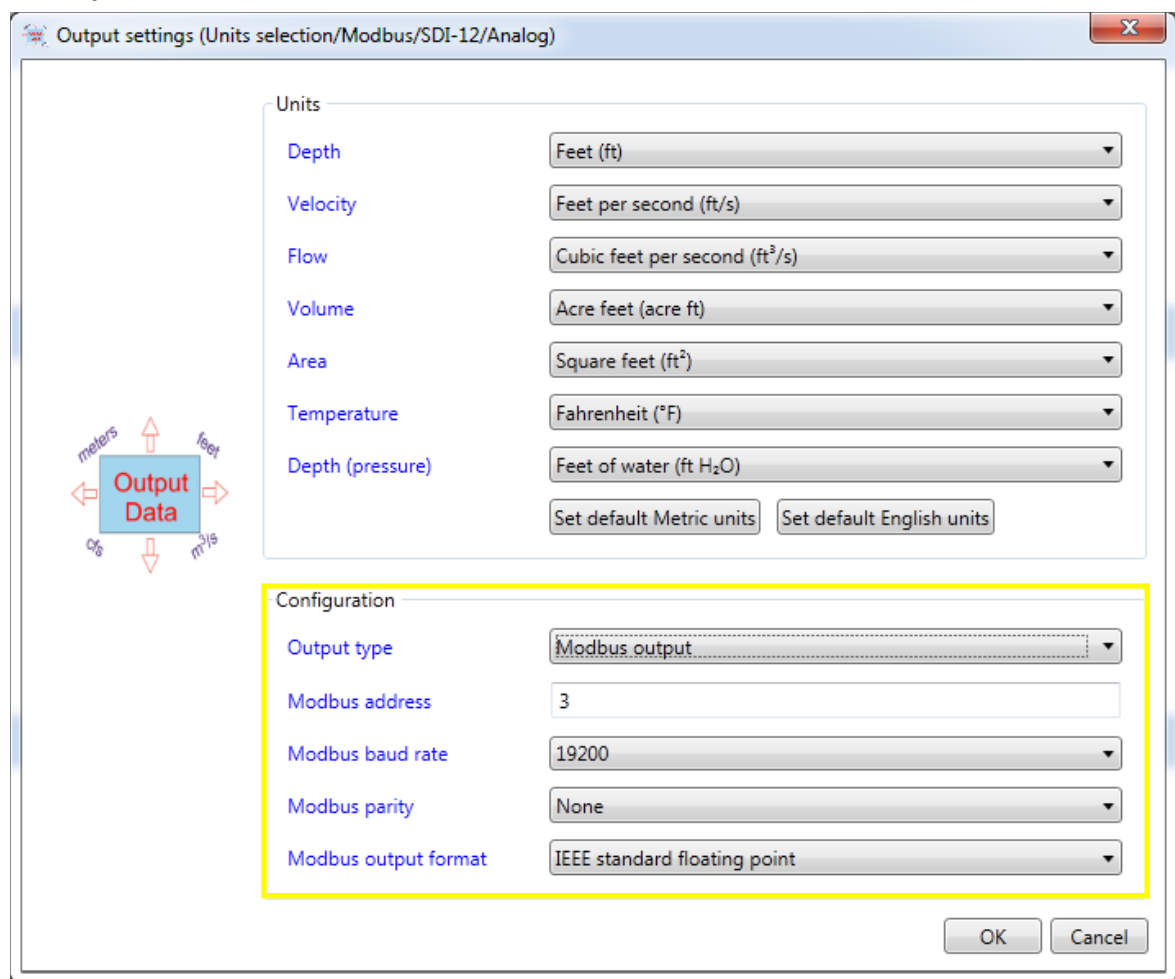

Figure 99. Modbus Configuration Using the IQ Software
- Figure 99 presents an example Modbus configuration.